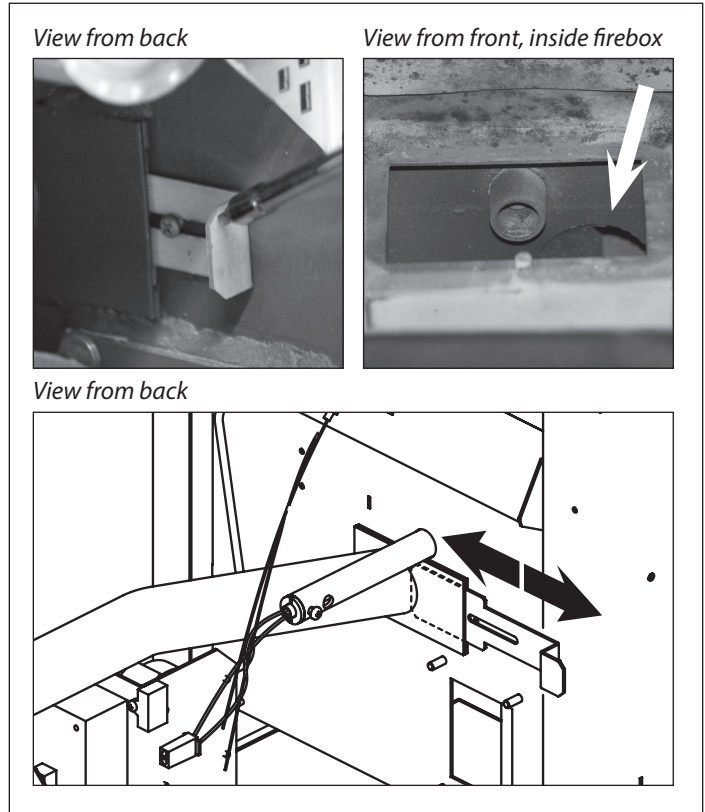

Figure 27
**ADJUST THE AIRFLOW GATE BEFORE INCREASING THE EXHAUST VOLTAGE.** If you are having issues with getting enough air to your fire, **FIRST** try to adjust the air flow gate. SEE FIGURE 27. This will also adjust the air flow to the stove. In most installations, the air flow gate should be 1/2 open. this is best viewed from the front of the stove with the fire pot removed.